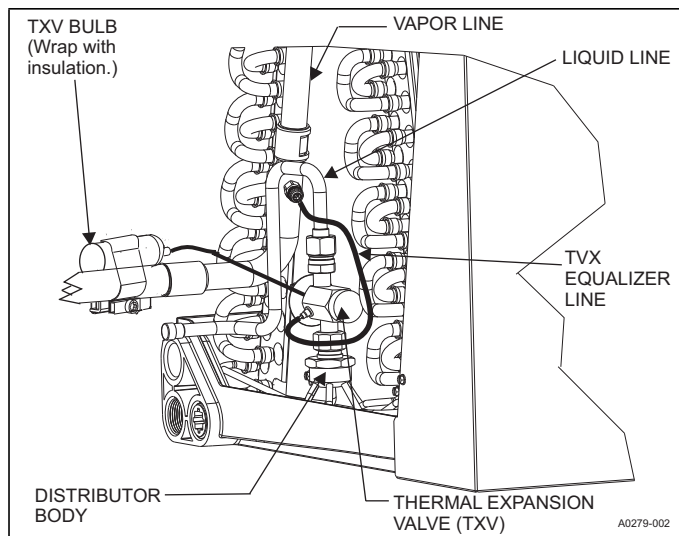

FIGURE 6: TXV Bulb and Equalizer Line Installations
9. Install the TXV bulb to the vapor line near the duct access panel, using the bulb clamp(s) furnished with the TXV assembly. Ensure the bulb is making maximum contact. See Figures 6 and 7.